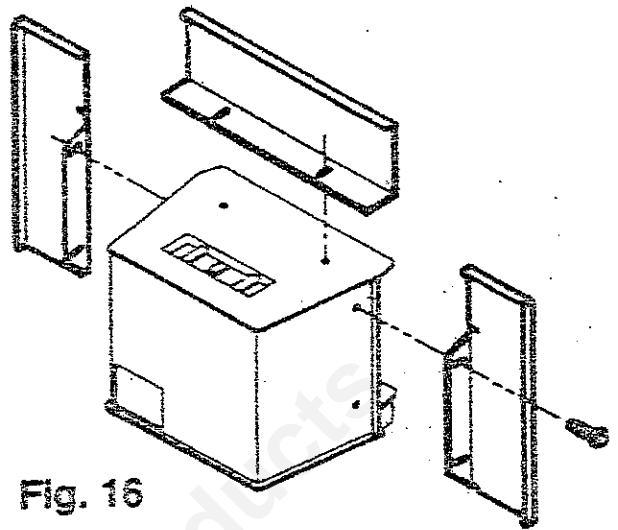

Fig. 16
7. Mount the trim panels using a 3/8" or adjustable wrench and the (5) 1/4-20 self threading screws provided. (Fig.16).